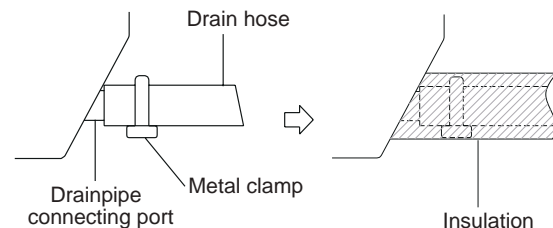

Figure 5.
2. Attach the mouth of the drain hose to the unit's outlet pipe. Sheath the mouth of the hose and clip it firmly with a pipe clasp. See Figure 5.